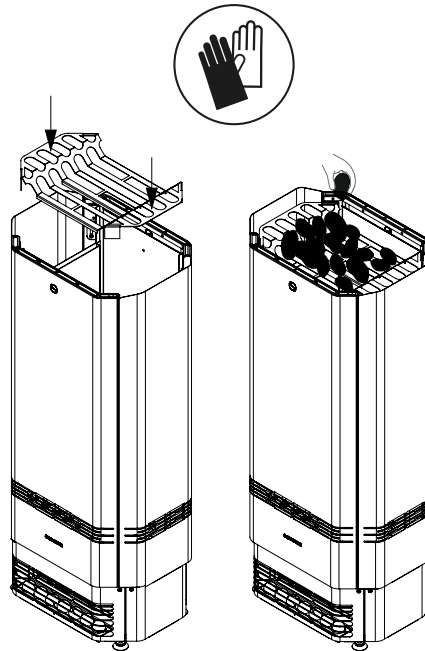

Figure 11
4. Place back the stone basket top grille and add 1-2 layers of stones so that air can pass through the top grille and stones freely (Figure 11 & 12).